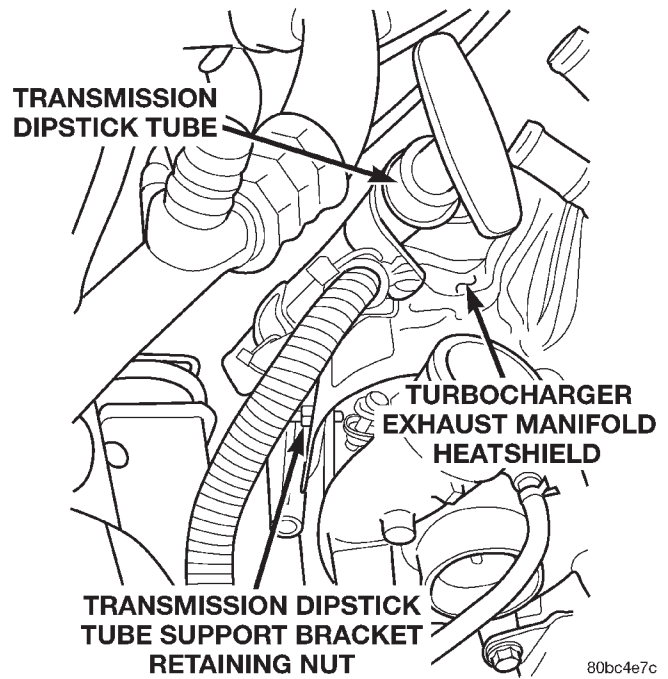

Fig. 39 Transmission Dipstick Tube Support Bracket
- (15) Disconnect the two remaining hoses and remove the coolant lines from the vehicle.
- (16) Remove the oil separator retaining bolts.
- (17) Disconnect the crankcase vapor supply and return hoses and remove the oil separator from the vehicle.
- (18) Remove the transmission dipstick tube support bracket nut from the turbocharger heatshield (Fig. 39).